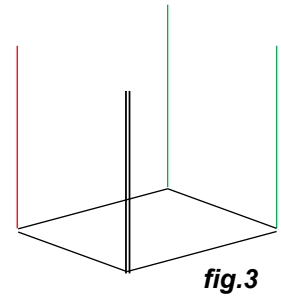

fig.3
- 2.2 Select 1 x Bottom Plate (1.980m Green) and holding it vertical, fit one end to the matching green rebate on the end frame. *(in green fig.3)* and nail in place with 2 x 75mm nails
- 2.3 Repeat with the remaining Bottom Plate. *(in green fig.3)*
- 2.4 Select the remaining rebated top plate (red) and repeat step 2.2 *(in red fig.3)*